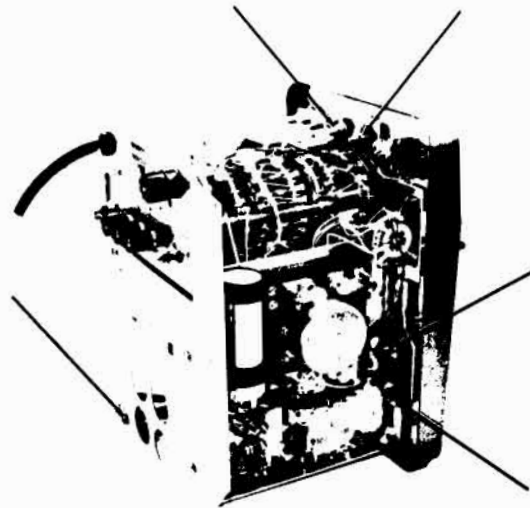

Figure 2
4. Remove the hexagonal nuts and screws indicated by arrows in Figure 2.